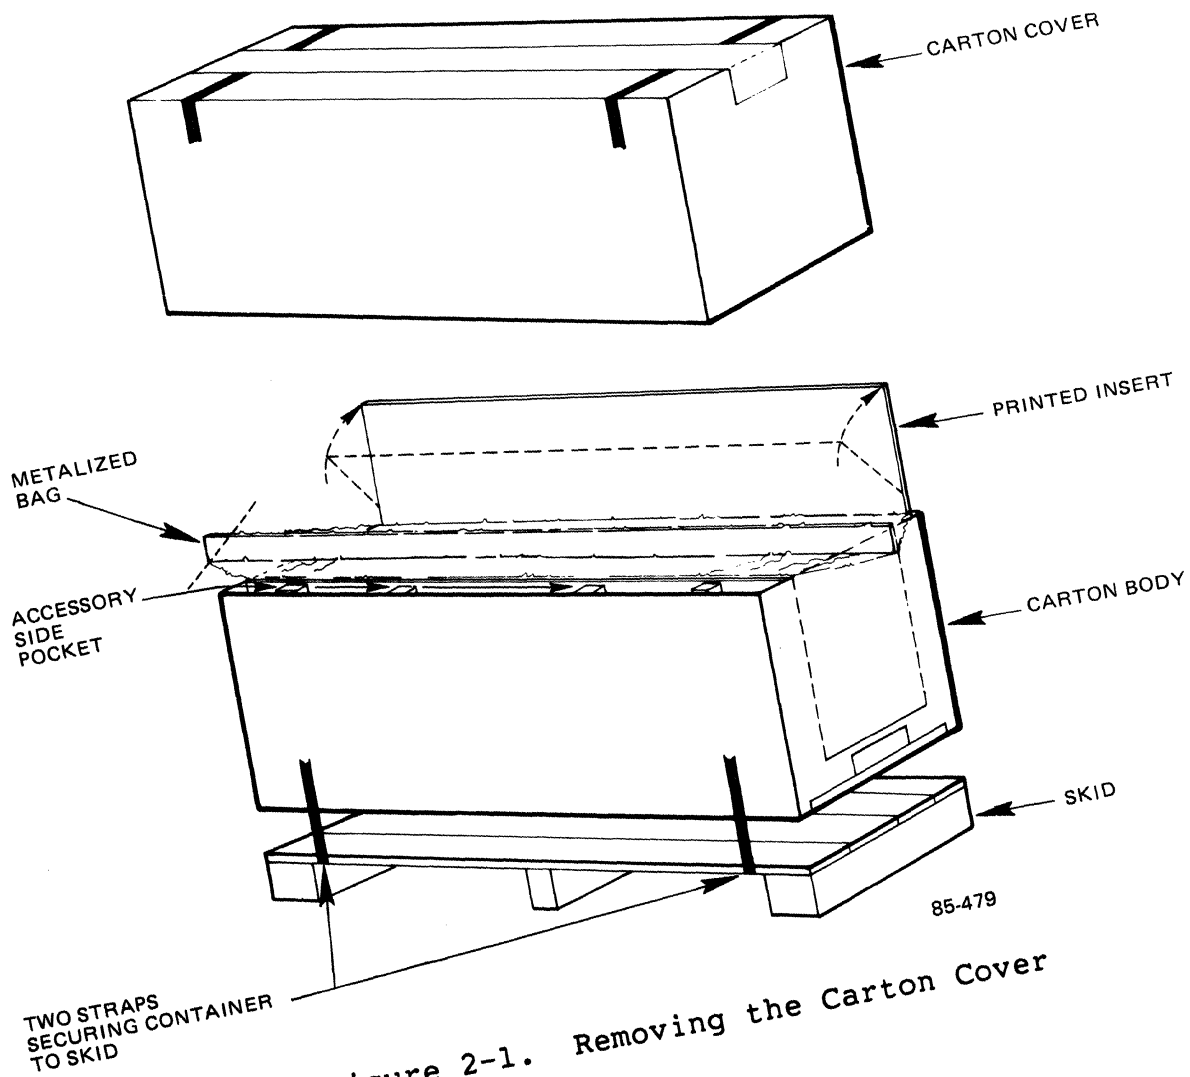

Figure 2-1. Removing the Carton Cover
2. Without cutting the tape, lift off the top half of the carton (see Figure 2-1).